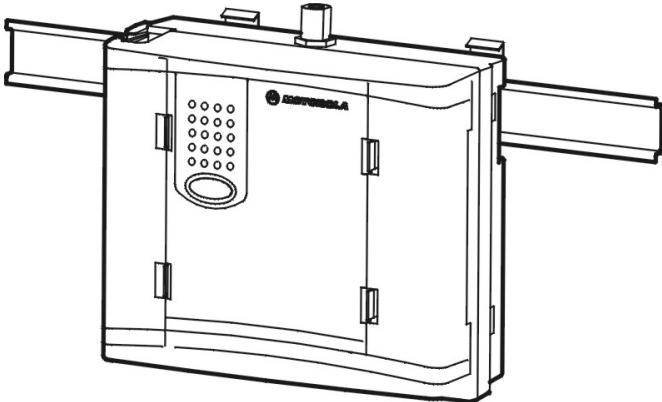

Figure 6
- 2. Press the unit onto the DIN rail, using both universal foot elements. The elements can be used on DIN rail 35 mm and G rails. (See Figure 6).